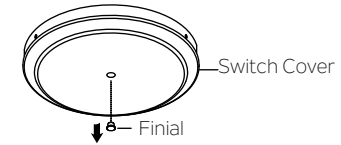

Fig. 1
Step 1. Remove finial located in the bottom of the switch cover by using a tooling. (Fig. 1) Keep it for future use.